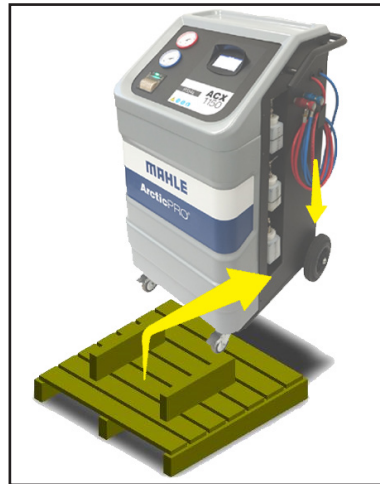

Fig. 12: Lowering unit from pallet
4. Slowly lower the unit from pallet by means of the rear wheels (Fig. 12).